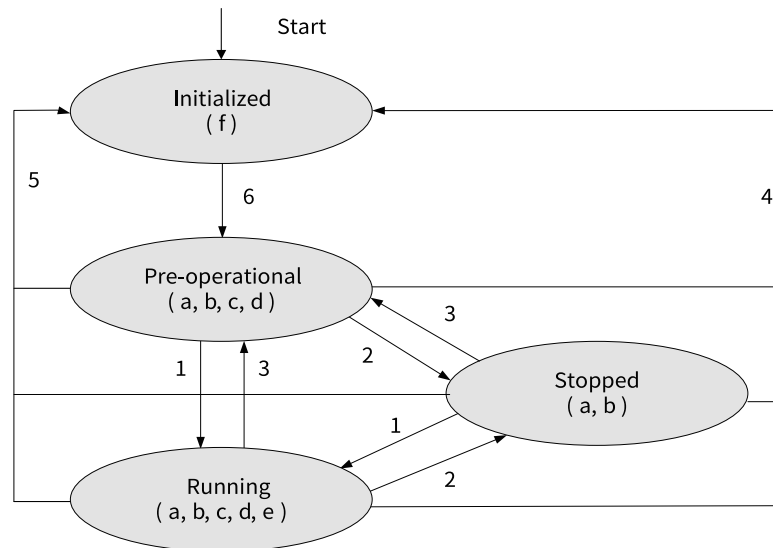

Figure 4-39 State transition of a slave during startup
- Start Node: Click this button to run slave nodes. PDO communication can be implemented only when slave nodes are running. When the slave is in the pre-operational or stopped state, clicking "Start Node" sets the slave to the running state (state 1 in "Figure 4-39 State transition of a slave during startup" on page 258).
- Stop Node: Click this button to stop slave nodes from running, and all communication except node daemon and heartbeat stops. When the slave is in the pre-operational or running state, clicking "Stop Node" sets the slave to the stopped state (state 2 in "Figure 4-39 State transition of a slave during startup" on page 258).
- Enter Preoperational State: Click this button to enable the slave to enter the pre-operational state, in which the slave can initiate SDO communication, but not PDO communication. The slave enters the pre-operational state after initialization. When the slave is in the running or stopped state, clicking "Enter Preoperational State" sets the slave to the pre-operational state (state 3 in "Figure 4-39 State transition of a slave during startup" on page 258).